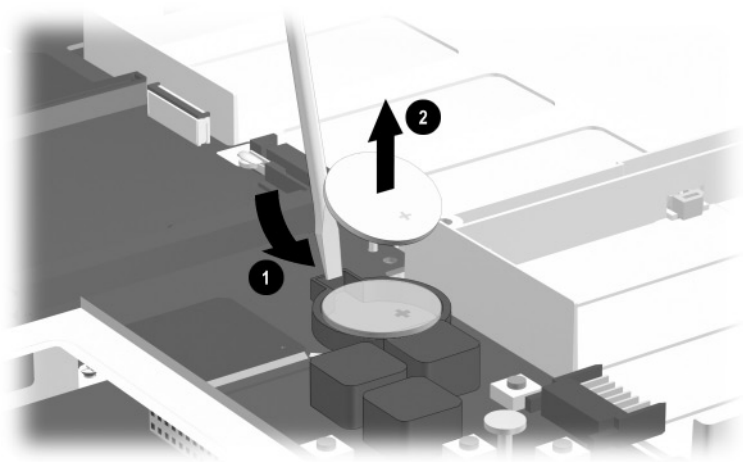

Figure 5-22. Removing the Disk Cell RTC Battery
2. Lift the back edge of the RTC battery and remove it from its socket on the system board (Figure 5-22).